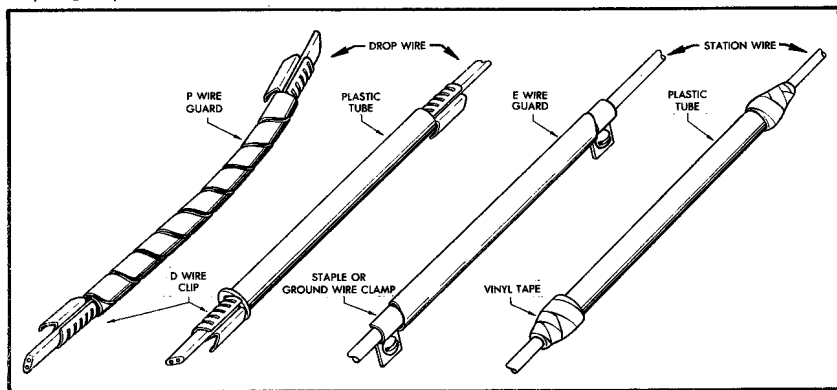

FIGURE 1. Securing Wire Guards
6.01 Where it is not practicable to obtain recommended minimum separation at crossings other than those shown as **No Lesser Alternative** in Tables B and C, or where wire or cable runs are subject to mechanical damage, abrasion, or excessive heat, a protective covering is required as shown in Figure 1. The protective covering should be used as follows: